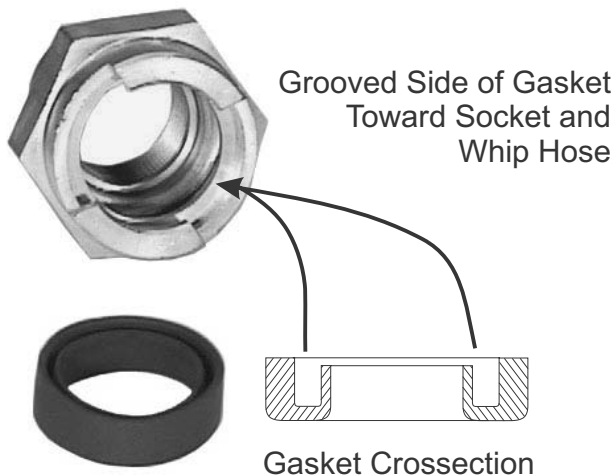

Figure 9-6. Insert New Gasket.
1. With the grooved face of the Gasket (20) toward the Quick Disconnect (Q.D.) Socket (19) and Whip Hose (18), insert the new Gasket (20) into the Socket (19). Check that the gasket seats properly. Refer to Figure 9-6.